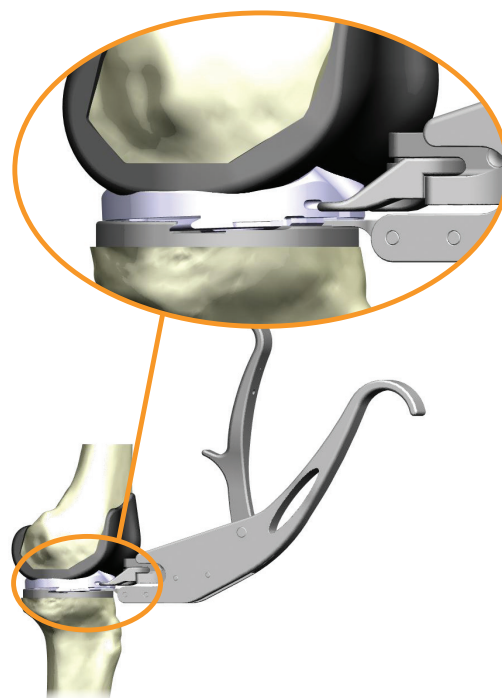

Figure 56
3. Insert the tip of the Articular Insert Assembly Tool into the center notch of the anterior lock detail (handle up) and engage the two tabs of the Tool into the two recesses on the anterior periphery of the insert (Figure 56).